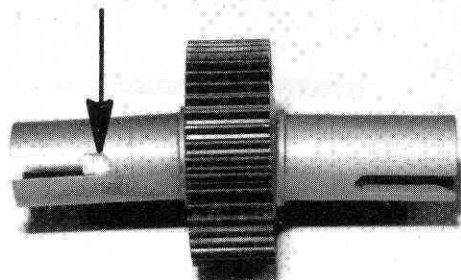

Fig. 47
□ **Fig. 47** As you're tightening, you'll notice the ear on the T-nut, shown by the arrow, moving closer and closer to the bottom of the slot in the hub. The spring should bottom out about the same time as the ear is at the bottom of the slot. When you feel the spring bottom out, that's when you back off 1/8 to 1/4 turn and your diff is correctly adjusted. The diff should operate very smoothly when turning the hubs in opposite directions. They are not supposed to spin freely, but just roll smoothly. Recheck the adjustment before driving the car. There is never a need to adjust the diff in any other manner.